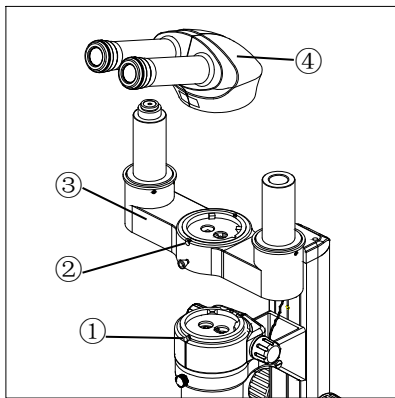
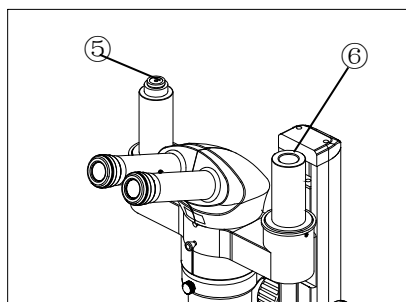
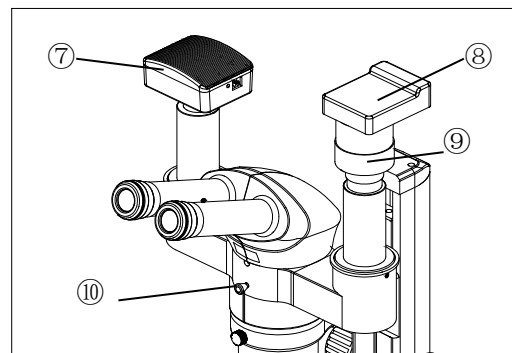

Fig.16
Fig.18
Fig.19
(Fig.16 ~Fig.19)
1. Loose the bolt ① with provided hex wrench and remove the binocular head ④ away from the zoom body.
2. Mount the light splitter unit③ onto the zoom body and fix it with bolt ①.
3. Mount binocular head④ onto the light splitter unit with bolt②,as shown in Fig.18.
4. Mount the camera head ⑦ into the C mount ⑤ (both 1× and 0.5× available) of the light splitter unit. Mount the adapter⑨ onto the transfer tube⑥ on the splitter unit ,as shown in Figure18 and figure19.
Pull out the light switching lever⑩ to open the light path, as in figure 19.